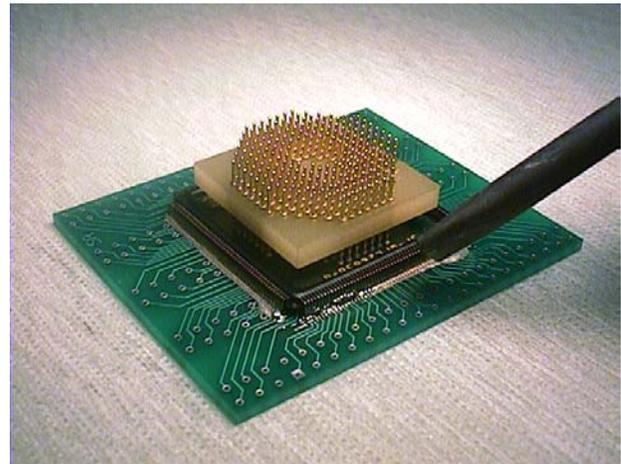

Figure 6: Reflow using hot air tool
- (e) Reflow, with a hot air wand/gun, the solder over a few of the pads in opposite corners (diagonally) of the land pattern (Figure 6).